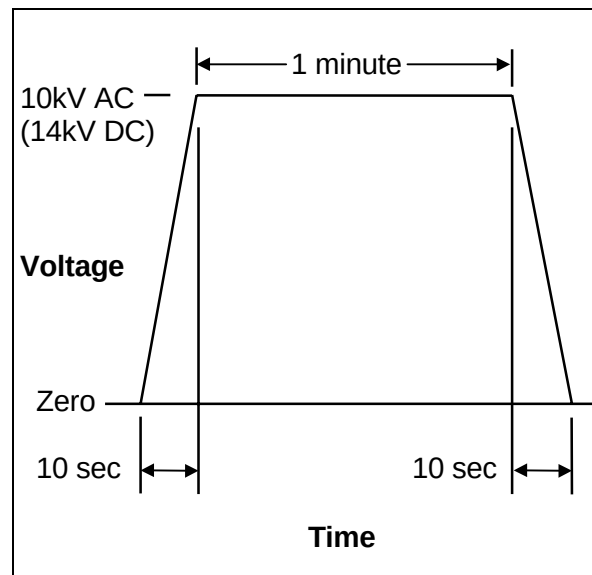

Figure 13 - Application of Test Voltage for Vacuum Check
3. **Increase the voltage from zero to 10kV AC at a rate of approximately 500V per second. Hold the voltage at this value for 1 minute and observe the current drawn by the interrupter. See Figure 13.**